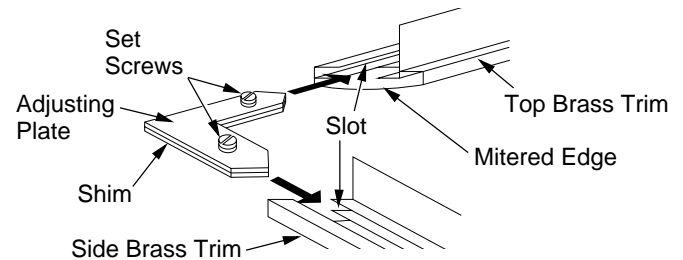

Figure 13 - Assembling Brass Trim
3. Align shim under adjusting plate as shown in Figure 13.
4. Slide one end of adjusting plate/shim in slot on mitered edge of top brass trim (see Figure 13).
5. Slide other end of adjusting plate/shim in slot on mitered edge of side perimeter trim (see Figure 13).